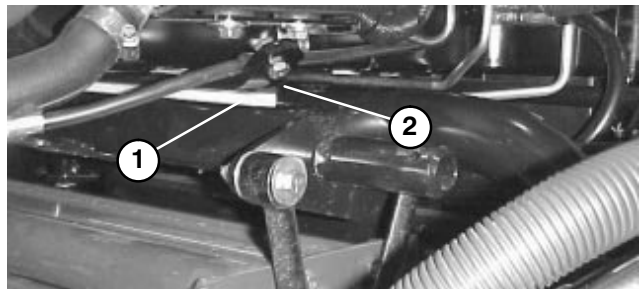
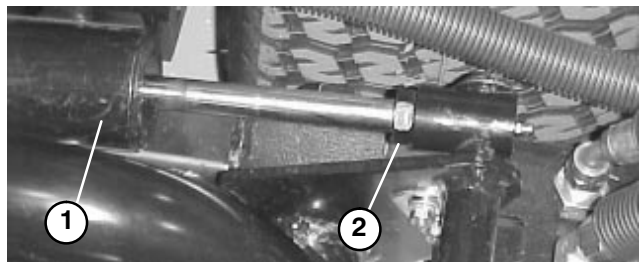

Figure 26
Figure 27
- Start engine, raise lift arms and check to make sure clearance between wear strap on top of rear cutting unit wear bar and bumper strap is .020" – .100" (Fig. 26). If clearance is not in this range, adjust rear cylinder to attain clearance. To adjust cylinder, lower the cutting units and back off the jam nut on the cylinder (Fig. 27). Grasp cylinder rod close to the nut